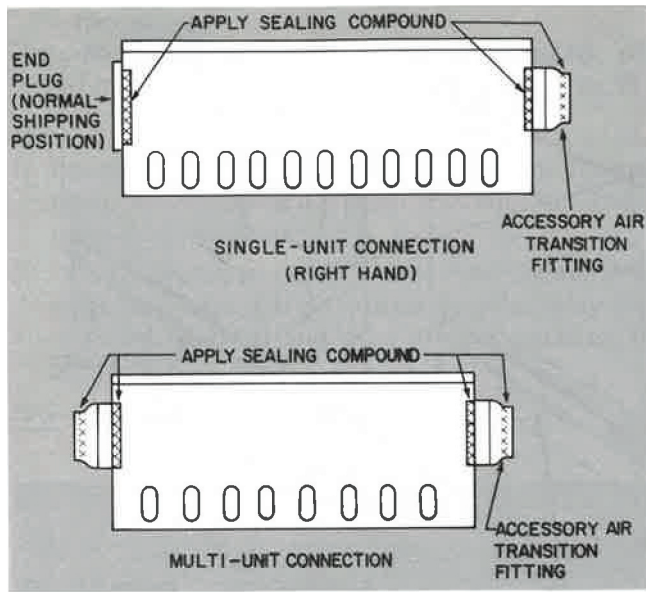

Fig. 5 — End Plug Fittings
1. Remove end plug from shipping position. *Do not discard.* See Fig. 5.
Apply sealer (3M Scotch Seal 800 or equivalent) to end plug and air transition fitting. Install plug and fitting to plenum connection. Connect duct to transition fitting; seal connection with duct sealer. See Fig. 5.